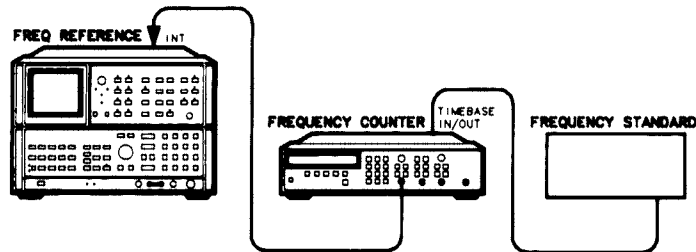

Figure 3-52. 10 MHz Frequency Standard Adjustments Setup
- Connect the (Cesium Beam) Frequency Standard to the Frequency Counter rear-panel TIMEBASE IN/OUT connector as shown in Figure 3-52.
11. Position the spectrum analyzer on its right side as shown in Figure 3-52, and remove the bottom cover. Typically, the frequency of the A22 10 MHz Frequency Standard will shift slightly when the spectrum analyzer is reoriented. Record this shifted frequency of the A22 10 MHz Frequency Standard.